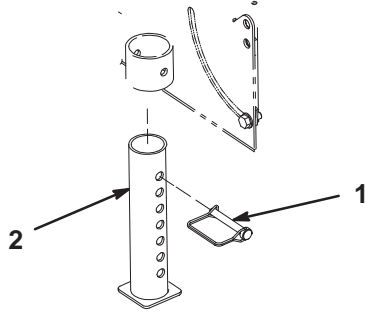

Figure 2
1. Remove the snapper pin securing the stand to the tube on the blower frame (Fig. 2).
2. Lower the stand. Install the pin through the upper set of holes in the stand and tube (Fig. 2). Secure the pin.